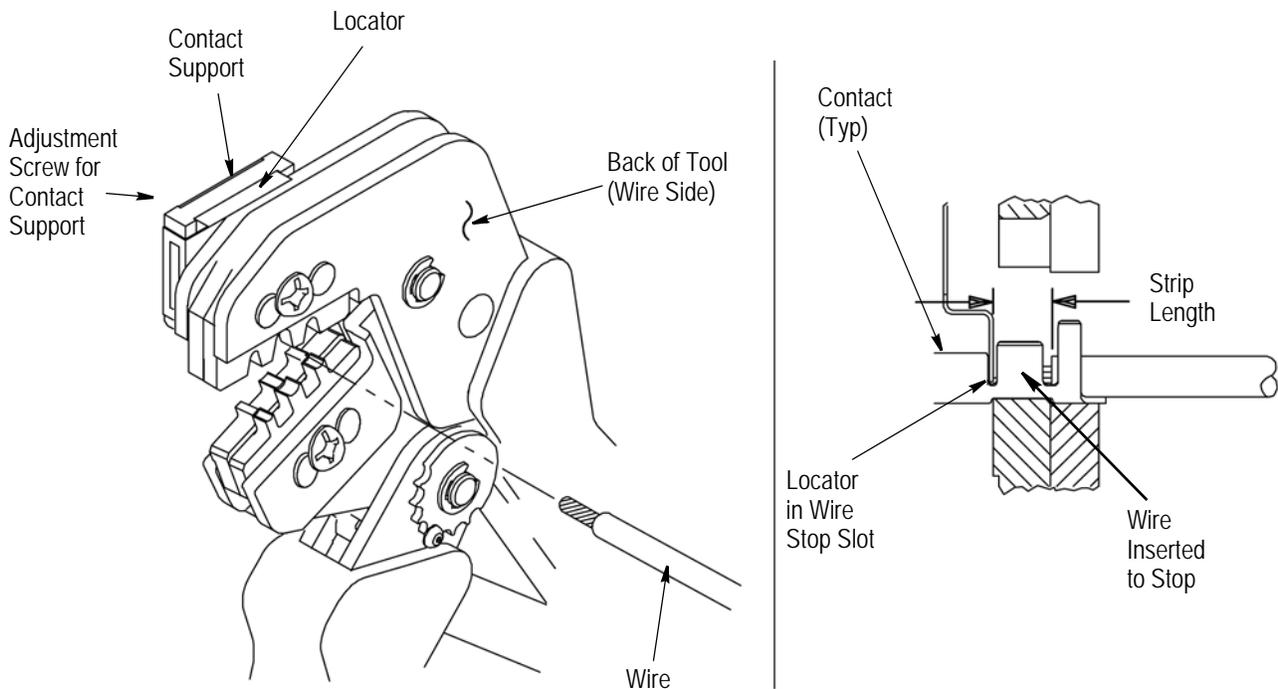

Figure 3
4. CONTACT SUPPORT ADJUSTMENT (Figure 3)
the length indicated in Figure 1, taking care not to nick or cut wire strands. Select an applicable contact and identify the appropriate crimp section according to the wire size markings on the tool. Refer to Figure 3 and proceed as follows:
3. Position the contact so that the mating end of the contact is on the locator side of the tool, and so that the open "U" of the wire and insulation barrels must face the top of the tool. Place the contact up into the nest so that the movable locator drops into the slot in the contact. Refer to Figure 3. Butt the front end of the wire barrel against the movable locator.
5. Insert stripped wire into contact insulation and wire barrels until it is butted against the wire stop, as shown in Figure 3.
The crimped contact may stick in the crimping area, but the contact can be easily removed by pushing downward on the top of the locator (see Figure 3).